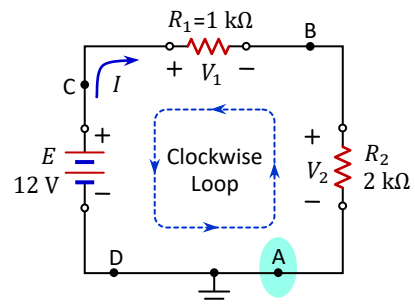

Fig.1-24: KVL applied to a simple circuit
**Kirchhoff's voltage law (KVL)** states that the algebraic sum of the potential rises and drops around a closed loop (or path) is zero. A closed loop is any continuous electrical path that leaves a point in one direction and returns to that same point from another direction without leaving the circuit. In Fig.1-24, by following the current, we can trace a continuous path that leaves point 'A' through  $R_2$  and returns to the same point through  $E$  without leaving the circuit. Therefore, ABCDA is a closed loop or path. We can apply KVL considering the loop in clockwise direction or counterclockwise direction. The result will be exactly same. To apply KVL properly, we must know the polarities of voltage drops. The terminal of a resistor into which the conventional current enter will be positive (+) and the terminal from where the conventional current leaves will be negative (-). '+' means higher potential and '-' means lower potential. So, there must have a potential difference across the resistor (between '+' and '-' sign). In applying KVL around a loop, if we move from '+' to '-', the potential difference will be negative, and if we move from '-' to '+', the potential difference will be positive.
So, applying KVL in the loop of Fig.1-24, we can write,